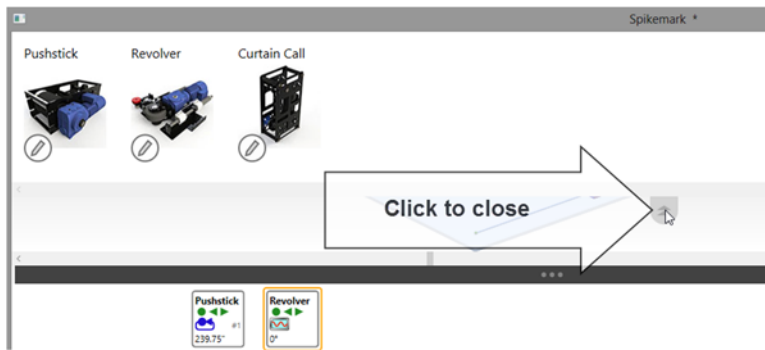

Figure 158
4. To close the **Machine Library** panel, either press the **Esc** button or click the **Machine Library** close tab (Figure 158).